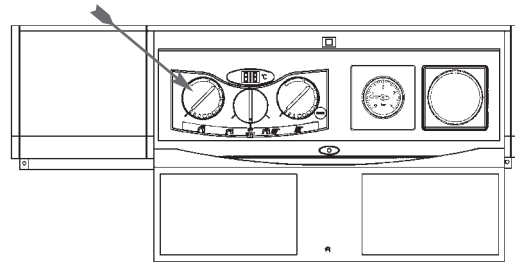

Fig. 3
2.3 The maximum water flow rate to the tap is set at a predetermined maximum delivery. The temperature of water at the tap can be varied by adjusting the water flow rate at the tap up to the predetermined maximum. The hot water temperature control knob (7) will govern the maximum temperature. Turning the knob clockwise increases the setting, anticlockwise decreases setting. (Fig. 3) When the appliance is being used in the hot water mode the temperature/fault indicator (1) indicates the approximate temperature of the hot water leaving the appliance.